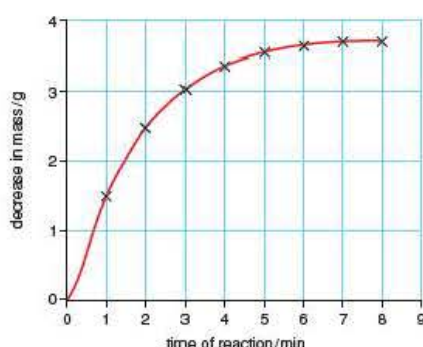

Figure 9.4
The results of the experiment are plotted on a graph in Figure 9.4. Notice that the reaction is fastest at the start of the reaction when the slope of the graph in Figure 9.4 is steepest. During the reaction, the rate falls and the slope begins to level off. Eventually the reaction rate becomes zero and the graph becomes flat with a slope (gradient) of zero.
- Look at the results in Table 1 and the graph in Figure 9.4.